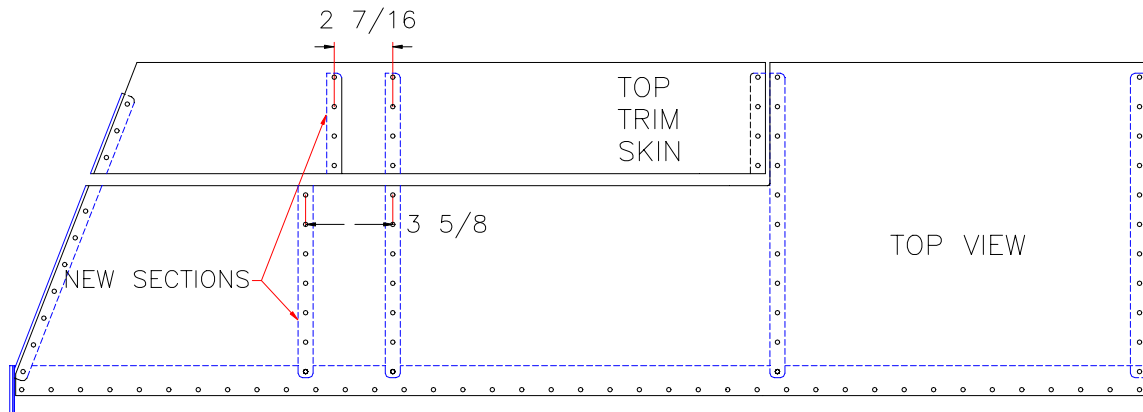

Figure 6.2.3
- 3) Position, drill and cleco the new section in place as in Figure 6.2.3.